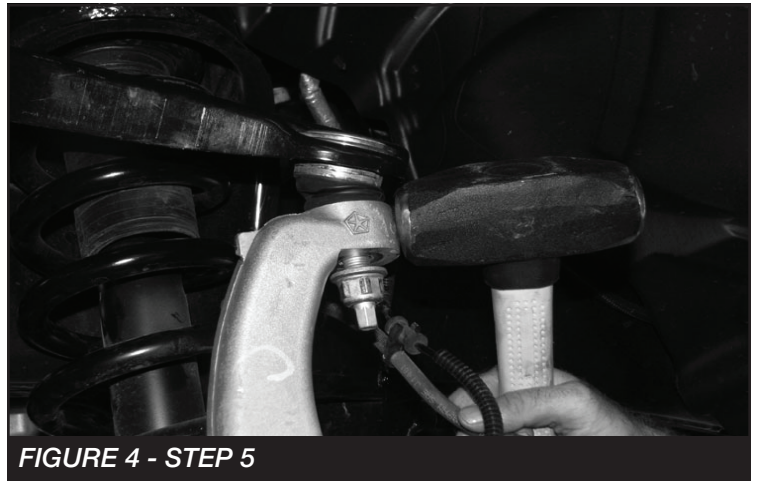

FIGURE 4 - STEP 5
5. Loosen the upper control arm ball joint nut. **Note: Leave nut attached.** Using a large hammer carefully strike the spindle at the ball joint to dislodge the control arm from the spindle. **SEE FIGURE 4**